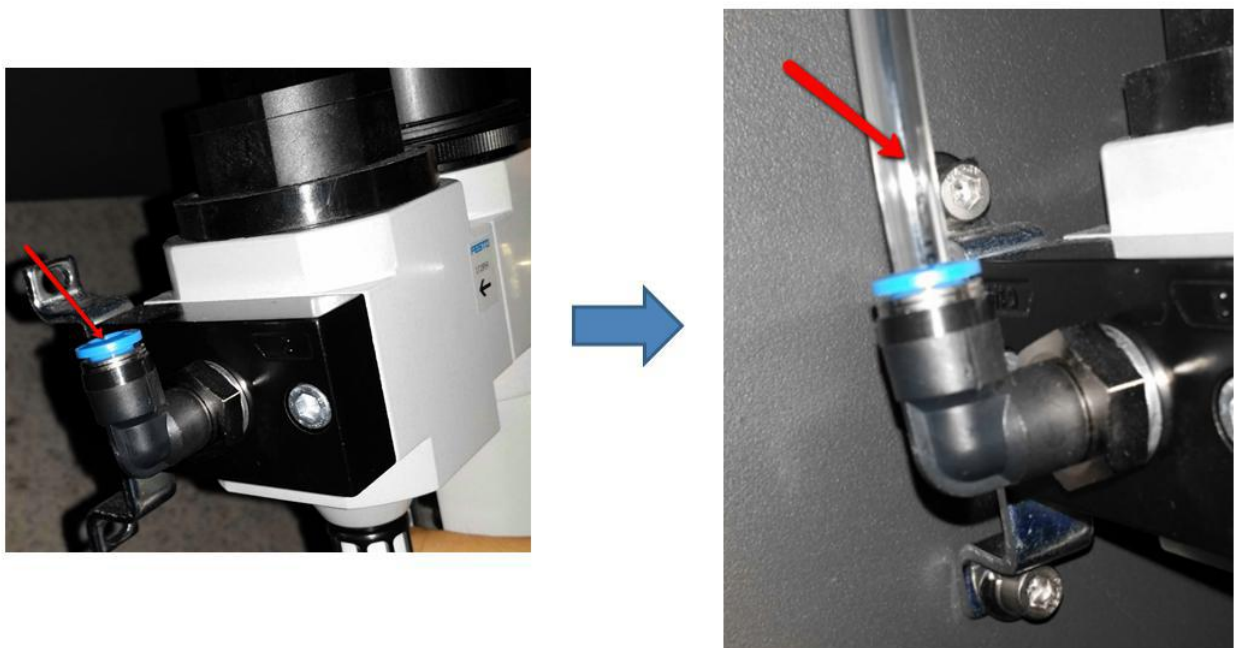

Figure 10 Tubing Assembly
2. Plug the tubing into the fitting as below Figure 10.